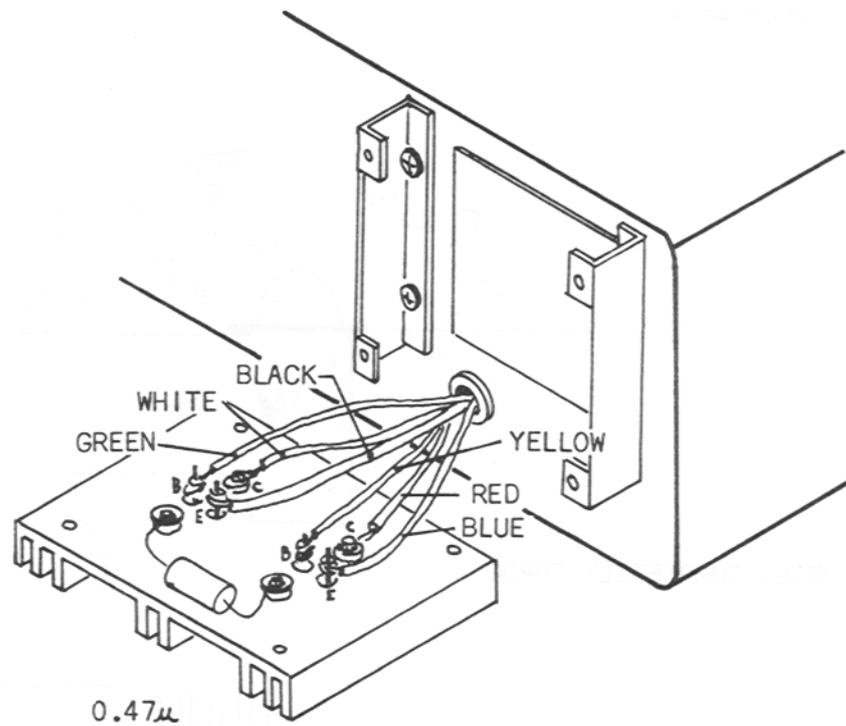

FIGURE 6-20
4. Wrap and solder the wires coming from the back panel to each transistor as shown in Fig.6-20. Make sure each wire is soldered well, but do not overheat the transistors.
If using 2SB206's, leave out the 0.47 μ f capacitor - you don't need it. Wire as shown in Fig.6-20 or below.
If using 2SB212's, use a 2.2 μ f instead of the 0.47 μ f capacitor. Wire as shown in Fig.6-20 or below.
If using 2N4280's, use the 0.47 μ f capacitor, and wire as shown in Fig.6-20 or below: